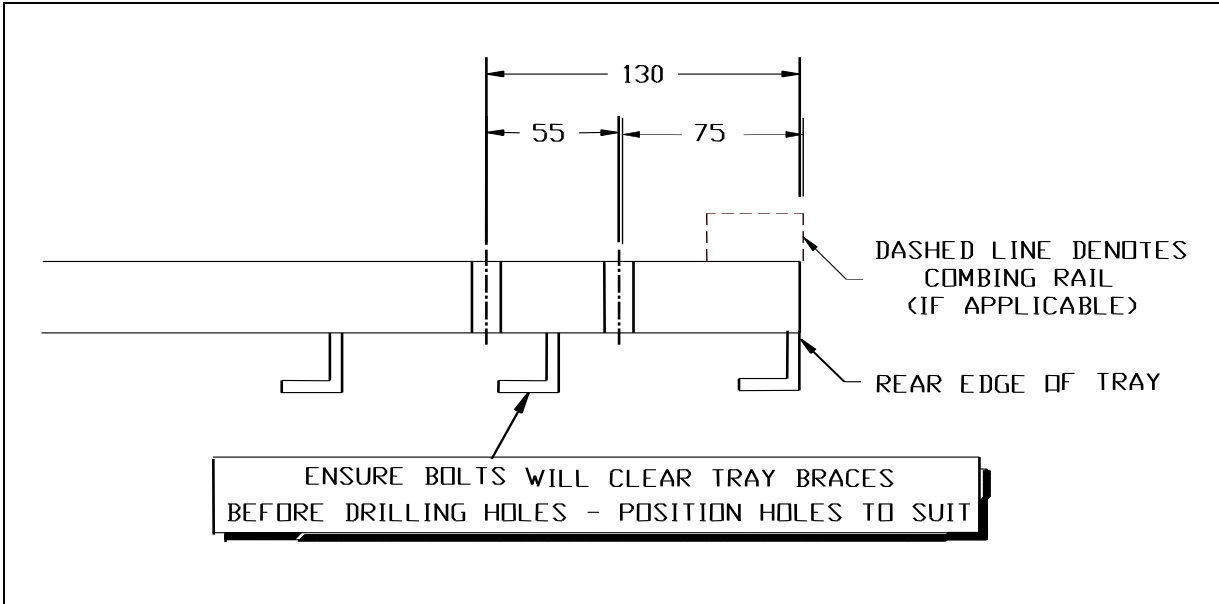

Figure 3 - Bolt Clearance
6. Drill a 12.5mm hole along the v-groove in each Tray Bracket [Item 2 & Item 3] 75mm (or as determined to clear the under tray braces, see Figure 3) from the back edge of the tray bracket.